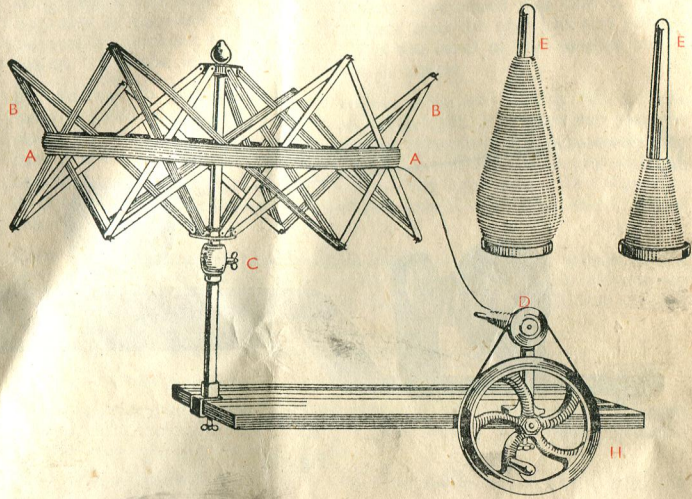

Fig. 13
Fix the winder and swift on to a table in the manner shown (Fig. 13), and the bobbin on to the winder spindle (D), take the hank of yarn (A) and place it over the swift (B), raise somewhat the barrel (C) so that the yarn will not fall off the swift, but not to bind the yarn tightly. Now piece the yarn to the bobbin (D) and with the right hand turn the wheel (H), and with the left hand guide the yarn. Wind first the lower end of the bobbin cone shaped, and gradually fill it towards the top, taking care to keep the cone shape throughout, so that the upper part of the bobbin may never have more yarn upon it than the lower part (see Fig. 13, E). Do not wind the yarn too tightly upon the bobbin, nor yet too loosely. Hard and course yarns will work easier if, in winding, a way ring be held in the left hand, and the yarn allowed to pass through it to the bobbin. The weaver's knot (Fig. 14) is the best knot to use for piecing the yarn. Large knots should be avoided.